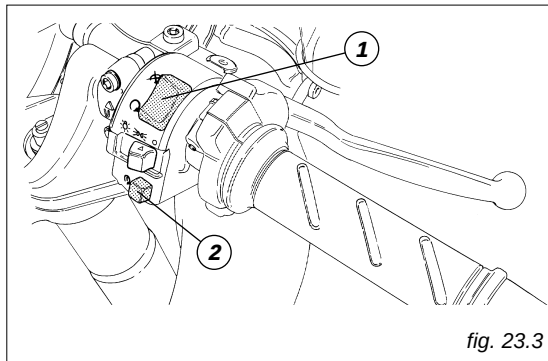

fig. 23.3
3) Check that the stop switch (1, fig. 23.3) is positioned to **○ (RUN)**, then press the starter button (2).